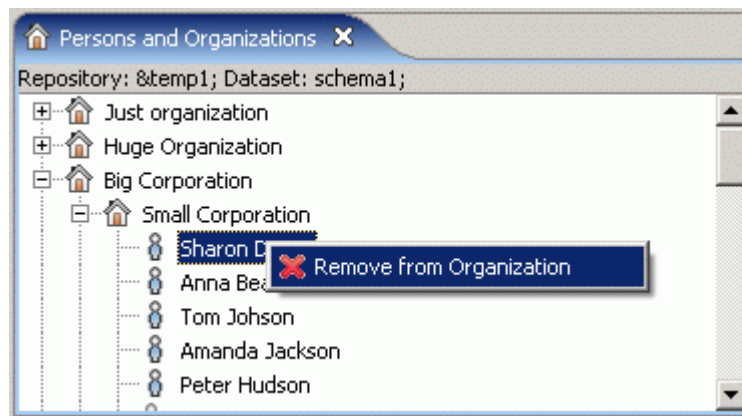

Figure 1. Context sensitive menu, Remove from organization
- Right click on an element node you want to remove ( sub-organization,  person or  position). A context sensitive menu appears (see Figure 1).